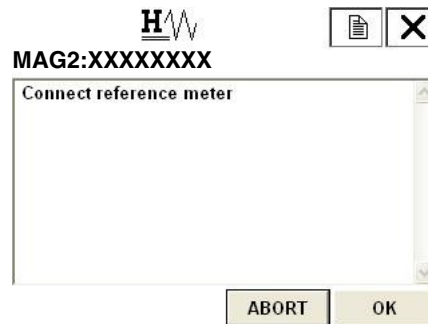

Figure 103.
- 3. Figure 103 then appears. Connect the device to measure the current output, and then press F4 (OK).